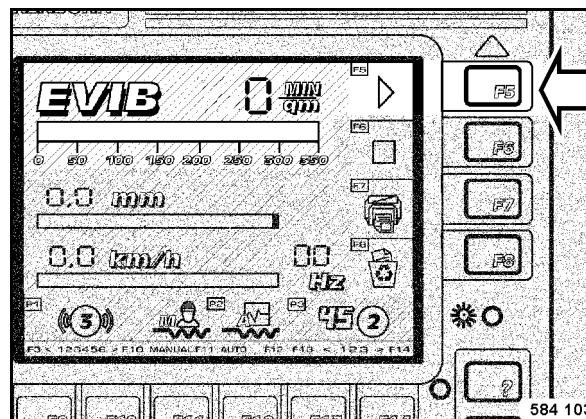

Fig. 75
- Control field F5 (Fig. 75) lights green.